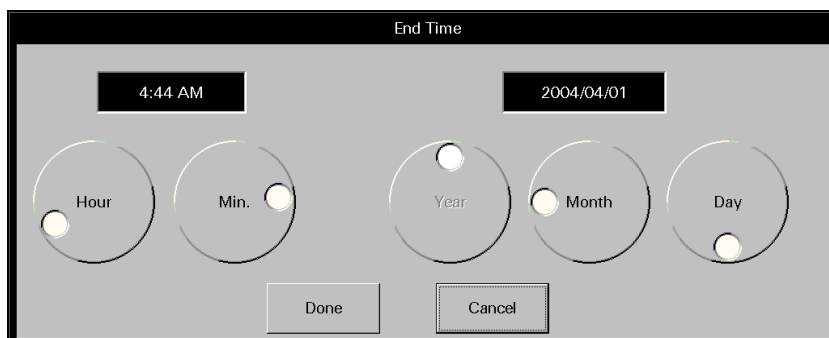

FIGURE 7-16 End Time Dialog Box
1. Select the End Time text box. The End Time dialog box (shown in FIGURE 7-16) is displayed.